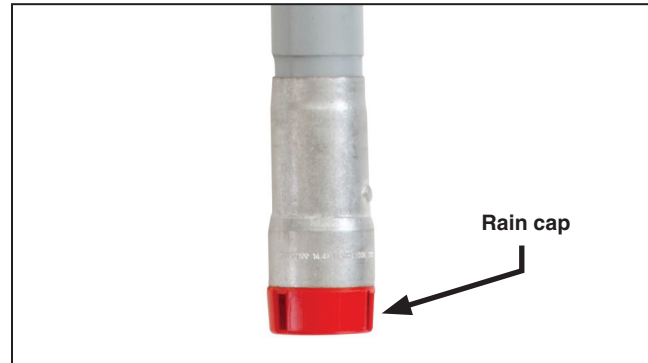

Figure 4. The red rain cap at the end of an SMU-20 Fuse Unit.
Do not remove the red rain cap (See Figure 4) on fuse units installed in outdoor overhead applications. **Removing the red cap can lead to water entry in the fuse, which can result in personal injury, fire, equipment or property damage.**
- If the red rain cap (shown in Figure 4 on page 12) is missing at the end of a fuse unit installed in outdoor applications, the fuse unit must be removed from service and be replaced with a new fuse unit.